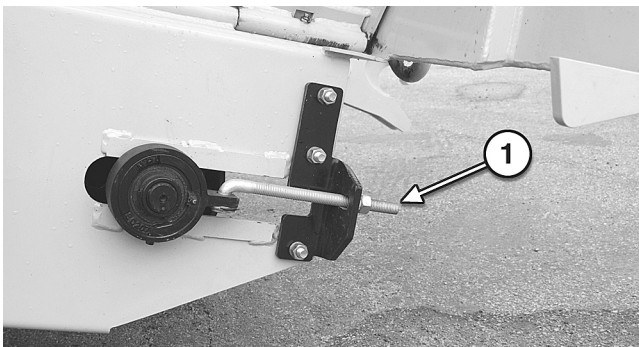
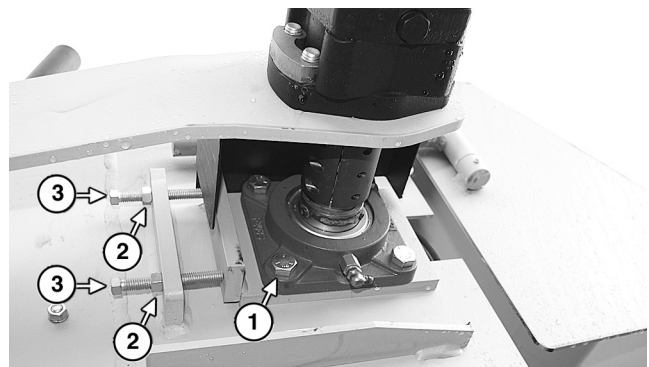

Figure 13. Conveyor Tail Pulley
Figure 14. Conveyor Head Pulley Adjustment
2. Should it be impossible to obtain centered belt operation by adjusting the tail pulley (Fig. 13) it will then be necessary to adjust the head pulley as outlined below. (Fig. 14)